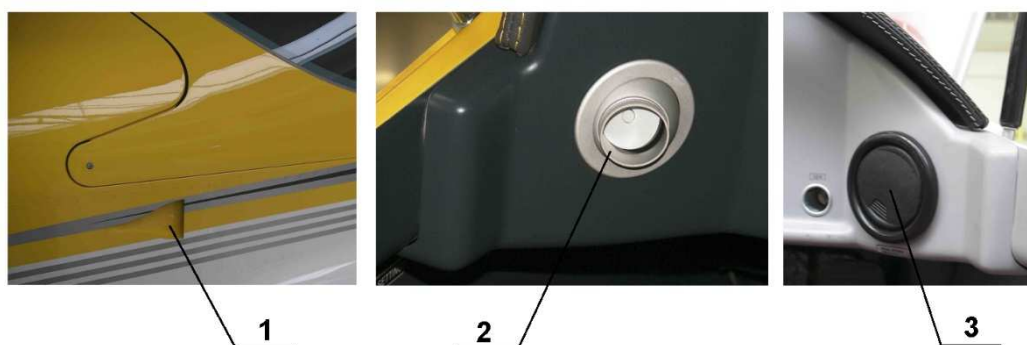
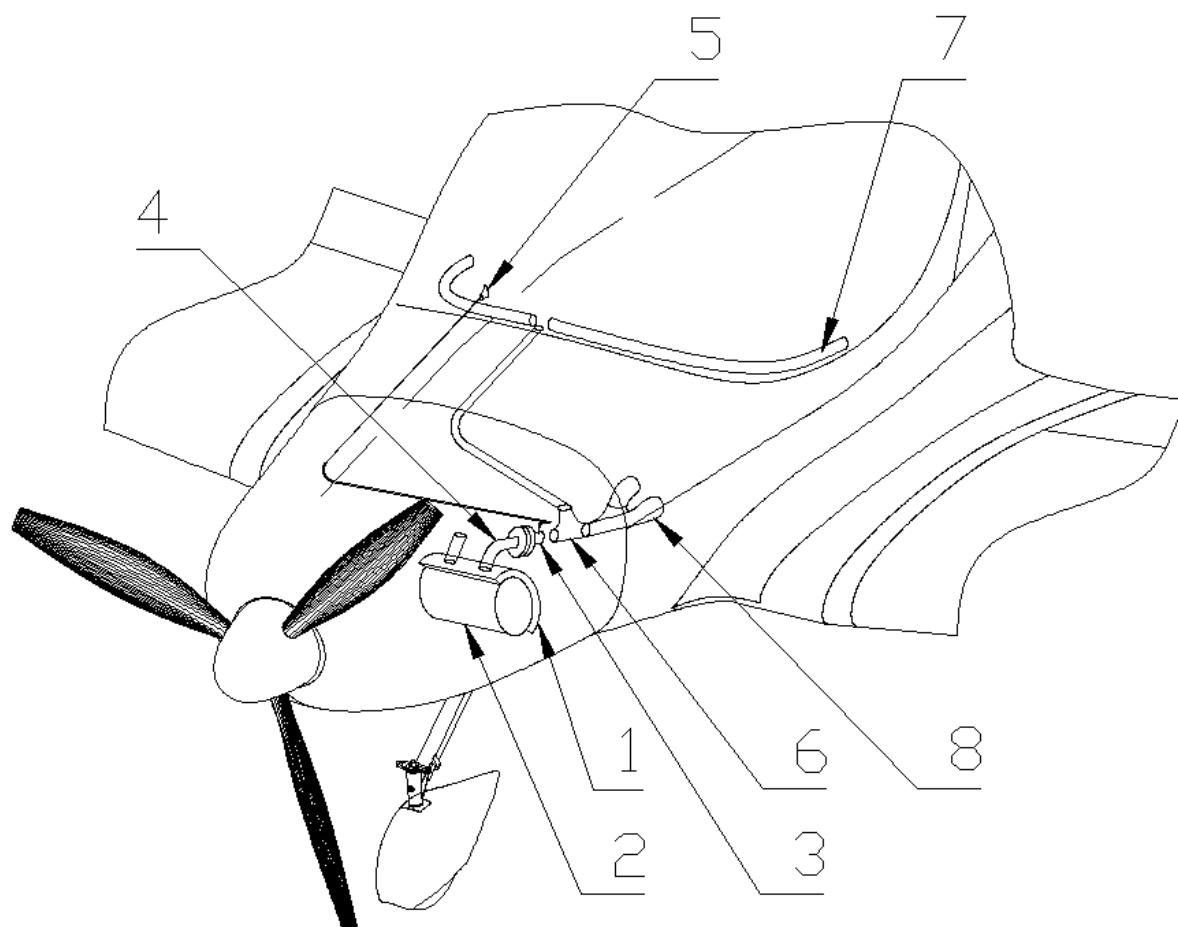

Fig. 13-1
Fig. 13-2
Cockpit ventilation is ensured by two eyeball (2) or automotive (3) air vents located in the cockpit on side panels of the instrument panel (see Fig. 13-1). Air inlets – Naca scoops (1) are located on both fuselage sides in front of the canopy. There is a composite part connected to the Naca scoop from inside the cockpit and a flexible hose is used to connect the air vent with the composite part.
Cockpit heating is ensured by hot air from the heat exchanger (see Fig. 13-2). The heat exchanger (1) is located on the muffler (2). Ambient inlet air taken by the muffler (2) is heated in the heat exchanger (1) and supplied through control flap (3) located on the firewall into the cockpit by air hose (4). Quantity of hot air is regulated by **HEATING** knob (5) on the instrument panel. Behind the firewall is located mixture flap (6), which splits hot air flow into the canopy bubble outlet (7) and into the crew legs outlet (8).
- (a) Disconnect the control cable on the control flap lever (3) (see Fig. 13-1) and mixture flap lever (6) (see Fig.13-2).
- (b) Remove the nuts (1) thus releasing the flexible housing (3) with the control knob (2).
- (c) Remove the control knob with cable from the flexible housing (3).
- (a) Insert the control knob (2) into the flexible housing and fasten it from both sides of the instrument panel by means of nuts (1).
- (b) Connect the control cable with control flap lever (3) and (6) (see Fig. 13-1, Fig. 13-2).